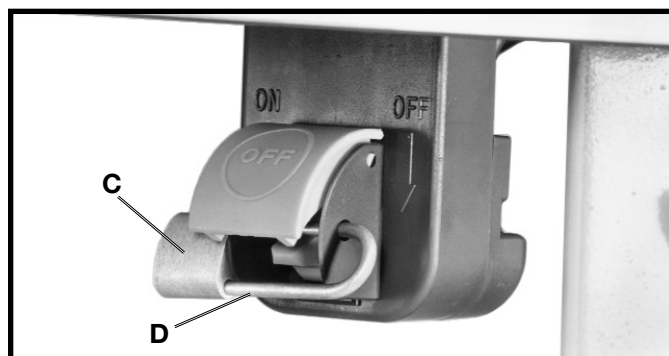

Fig. 43
IMPORTANT: When the machine is not in use, the switch should be locked in the "OFF" position to prevent unauthorized use, using a padlock (C) Fig. 43 with a 3/16" diameter shackle (D).